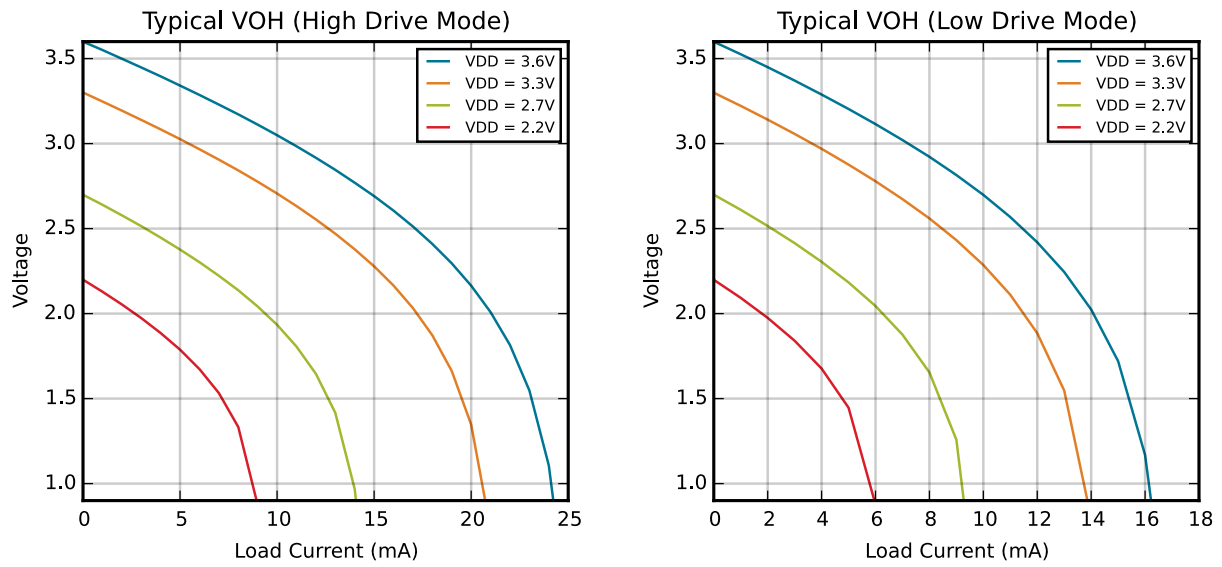
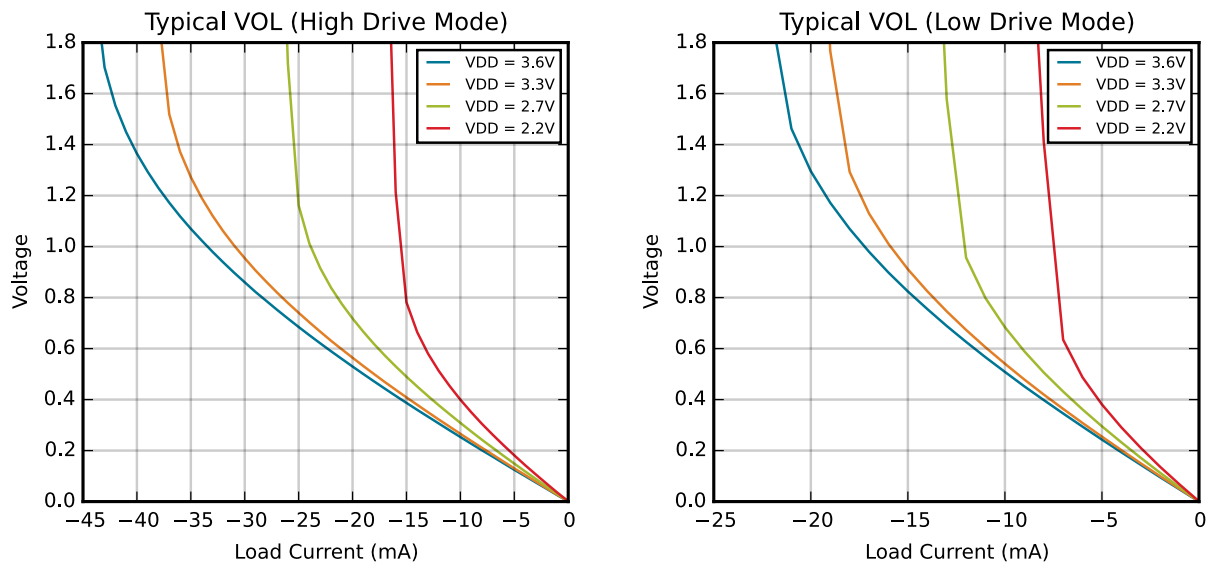

Figure 4.6. Typical V_{OH} Curves
Figure 4.7. Typical V_{OL} Curves
1. See Figure 4.6 Typical V_{OH} Curves on page 28 and Figure 4.7 Typical V_{OL} Curves on page 28 for more information.